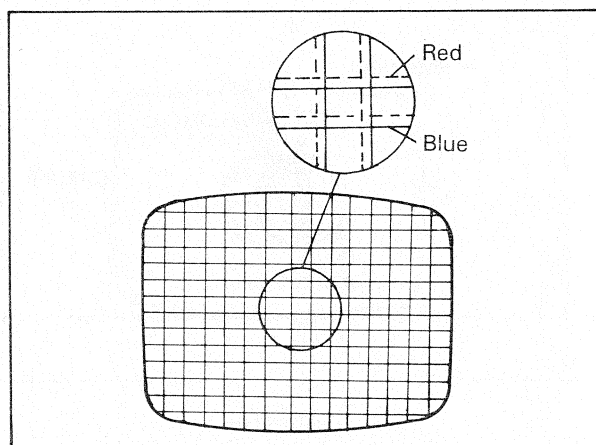

Fig. 2-7
- 4) Turn the two 4 pole convergence magnets and adjust so that red and blue become overlapped throughout the picture area to yield magenta. (Fig. 2-7).